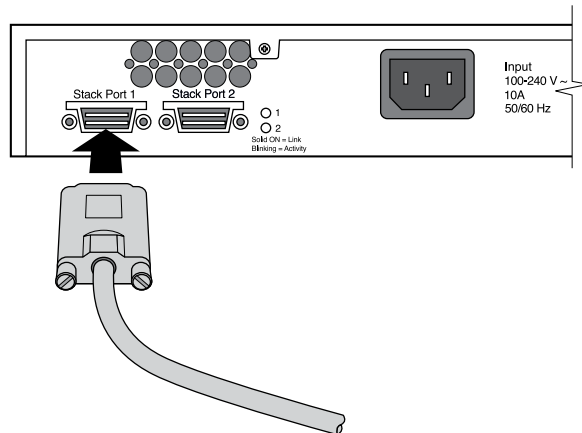

Figure 166: Connecting a SummitStack Cable
- 1. Align the cable connector with the stacking port connector on the rear of the first switch (see Figure 166).